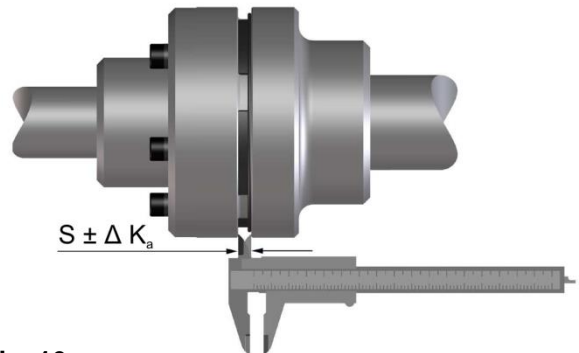

Fig. 16
- ❑ Measure the axial installation backlash S (Fig. 16).